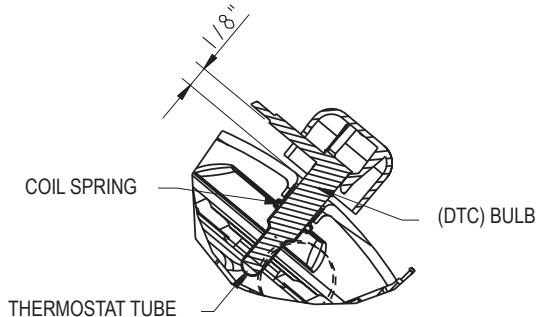

Figure 6. Bulb installation on top of the compressor
- c. Spread a thin film of thermal grease around DTC bulb. Press DTC bulb into thermostat tube on top of the compressor until the bulb bottoms out in the thermostat tube. (Install by hand, do not use excessive force) Copper tube from the DTC bulb should be approximately [1/8"] off the top of the compressor. Take care and avoid damaging or scratching the bulb. Please see Figure 6.
- d. Snap thermal cap onto DTC bulb on top of the compressor. If there is a need to remove the thermal cap due to height limitations, thermal insulation for the bulb is strongly recommended. Please see figure 6.